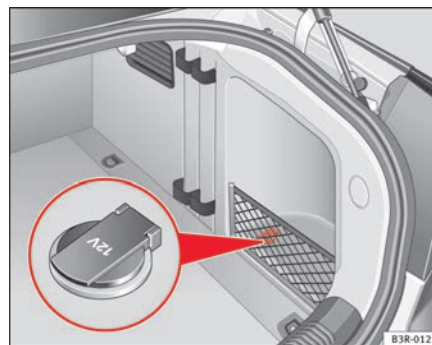

Fig. 128 Detailed view of the side trim in the luggage compartment: 12-volt socket
- Lift the socket cover ⇒ fig. 128.